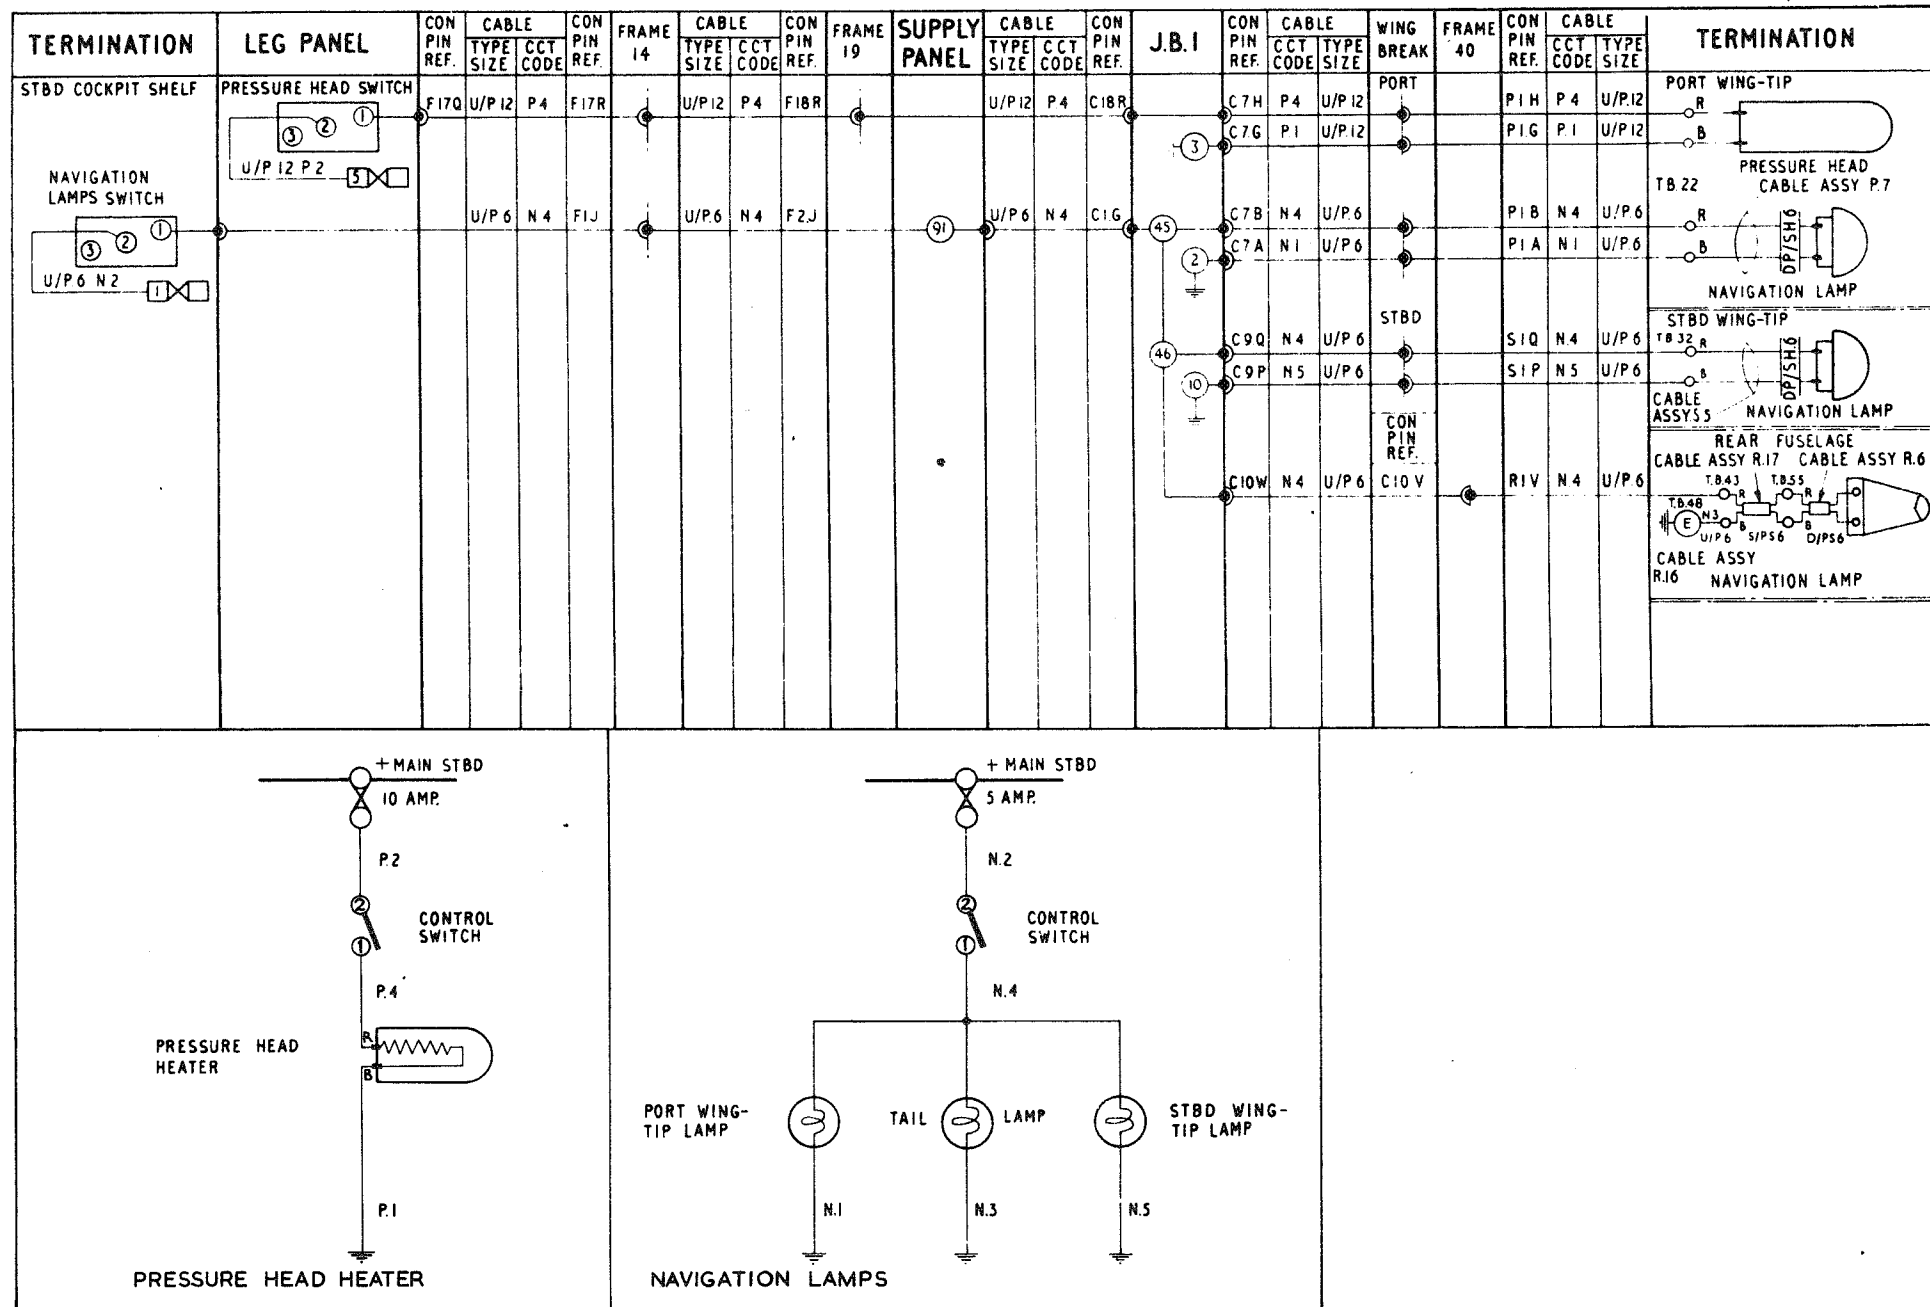

FIG. 1. NAVIGATION LAMPS AND PRESSURE HEAD HEATER
4. The operation of the navigation lamps and pressure head heater circuits should be clear from reference to the theoretical diagrams (fig. 1).